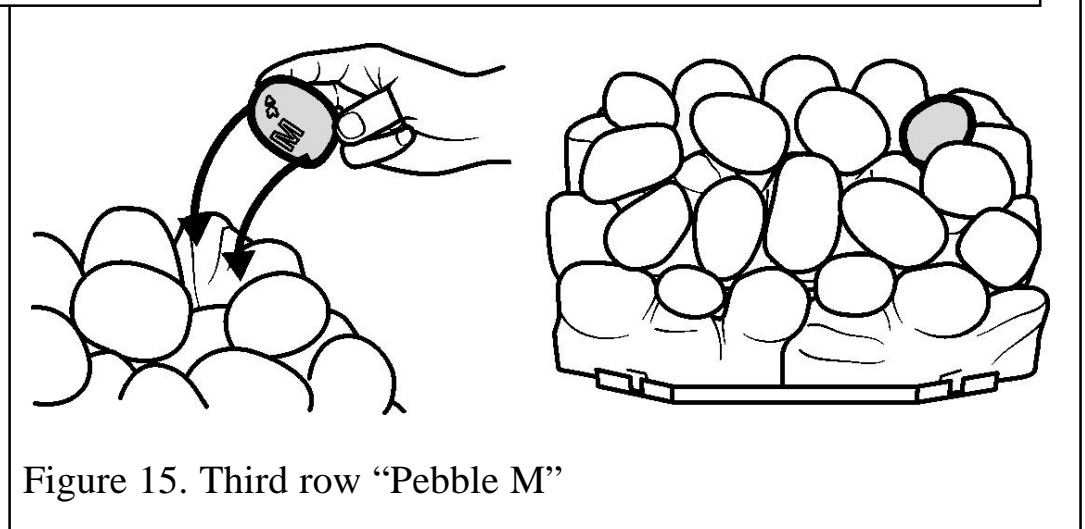

Figure 15. Third row "Pebble M"
17. Hold pebble 'M' upright with the arrow pointing to the top. Locate pebble 'M' as shown in figure 15.